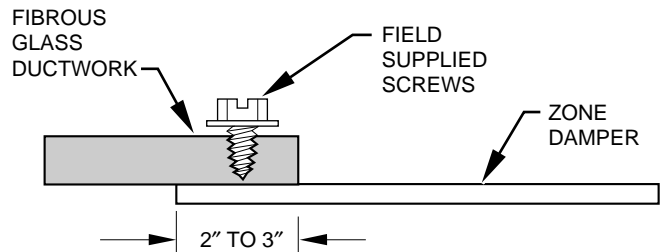

Fig. 14—Rectangular Fibrous Glass Duct Work A92480
1. Insert 1 end of zone damper into 1 end of fibrous glass duct work approximately 2- to 3-in. (See Fig. 14.)